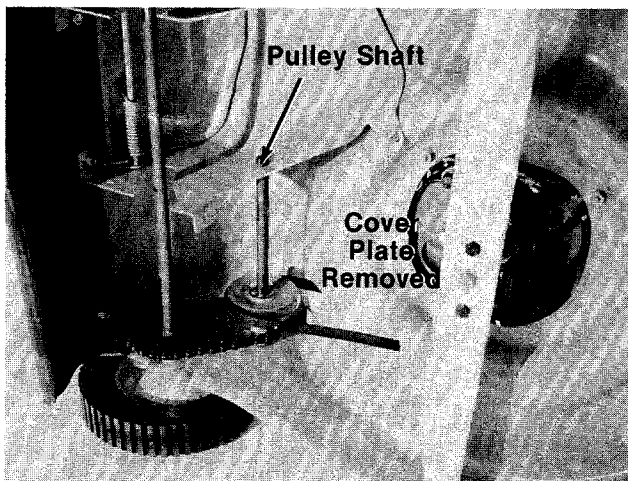

FIGURE 26.
8. Remove the cover plate. See figure 26.